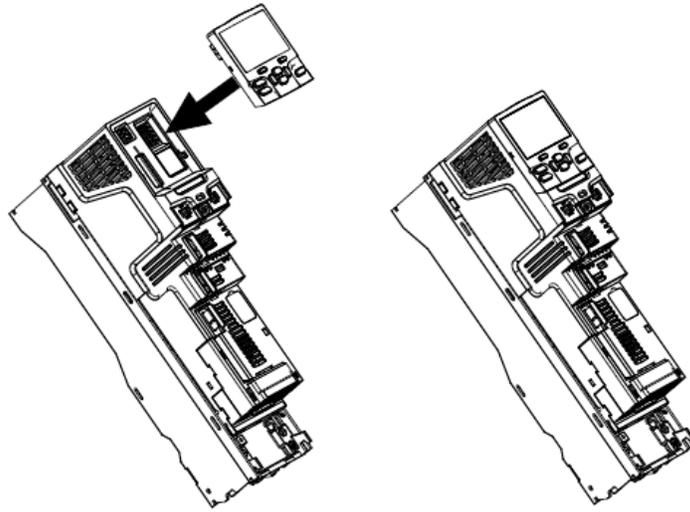
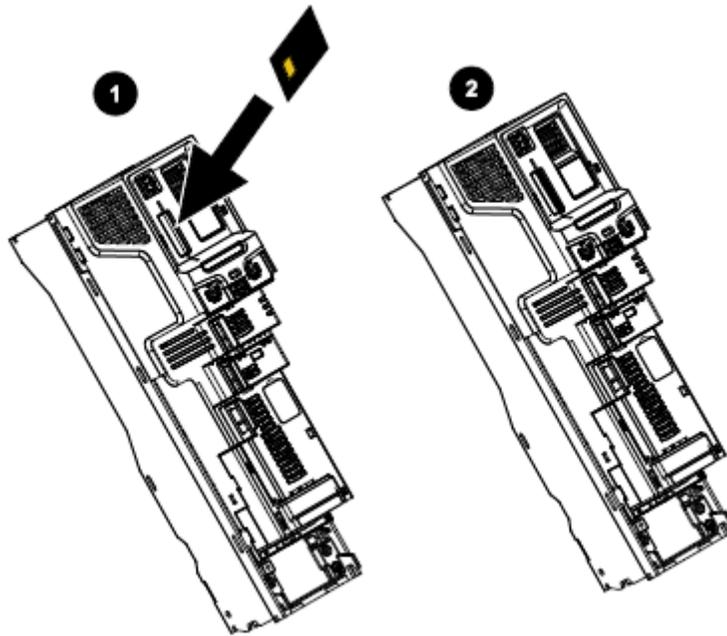

Figure 1
Figure 2
The following steps are needed to program a new NV Media Card or anytime the user wishes to save a new backup project to the NV Media Card residing in the working drive. In order to gain access to the drive NV Media Card the drive keypad will need to be removed as shown in Figure 1. The drive keypad can be installed or removed while drive is powered on.
To install, align the keypad and press gently in the direction shown in Figure 1 until it clicks into position. To remove, reverse the installation instructions.
Once the keypad has been removed the NV Media Card can be installed into the drive as shown in Figure 2. The NV Media Card can also be installed with drive power on, but make sure the drive is disabled and there is no voltage applied to control terminal 31.
The NV Media Card is located at the top of the module under the drive display (if installed) on the left-hand side. Ensure the NV Media Card is inserted with the contacts facing the left hand side of the drive as seen in Figure 2 (1). The NV Media card installed into the drive in Figure 2 (2) below. The drive only communicates with the NV Media Card when commanded to read or write, meaning the card may be "hot swapped", however, do not remove the NV Media Card until the Read or Write operation has completed.
Once the NV Media card has been installed into the drive as shown in Figure 2 (2) the drive keypad will need to be replaced and drive powered on in order to program the NV Media card. Using the drive keypad scroll up or down to drive parameter 00.030. Press the keypad 'M' so that 'None' is flashing and then using the up arrow change to 'Program' and press the Red Reset button.
Remove the drive keypad and install the NV Media card that has the backup drive parameters stored on it as shown in Figure 1 and Figure 2 and apply power to the drive. Make sure the drive is not enabled and there is no voltage applied to control terminal 31. Using the drive keypad scroll up or down to drive parameter 00.030. Press the keypad 'M' so that 'None' is flashing and then using the up arrow change to 'Read' and press the Red Reset button.